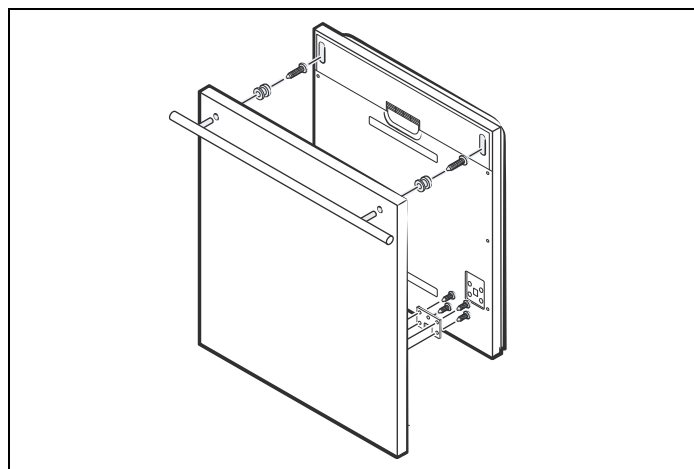

Fig. 16
- 2) Fasten the hook on the custom door panel and insert it into the slot on the outer door of the dishwasher (Fig. 16).